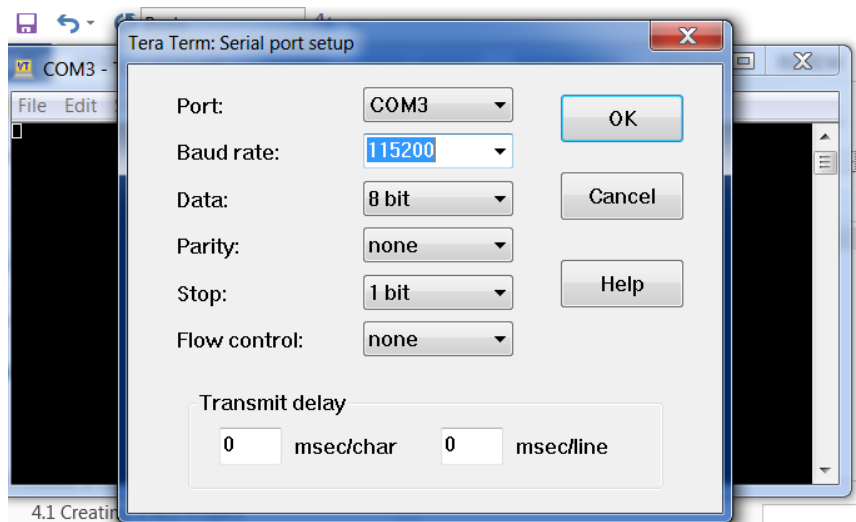

Figure 71: Configuring the serial port
- From the Menu bar choose Setup > Serial port ... and configure the serial port as 115200-8-n-1 as shown in Figure 71.